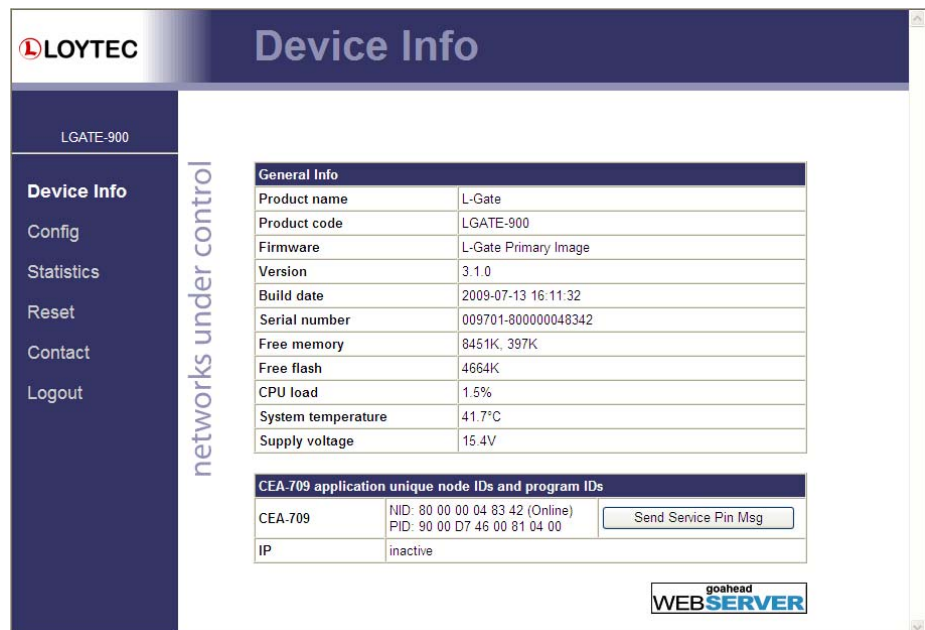

Figure 10: Device Information Page
5. The device information page should appear as shown in Figure 10.